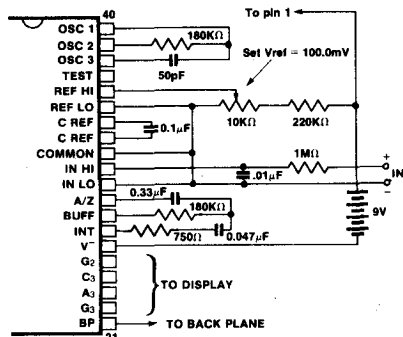

Figure 9: 7126 using the internal reference. Values shown are for 200.0mV full scale, 3 readings per second, floating supply voltage (9V battery).
*Values depend on clock frequency. See Figure 9, 10, 11.